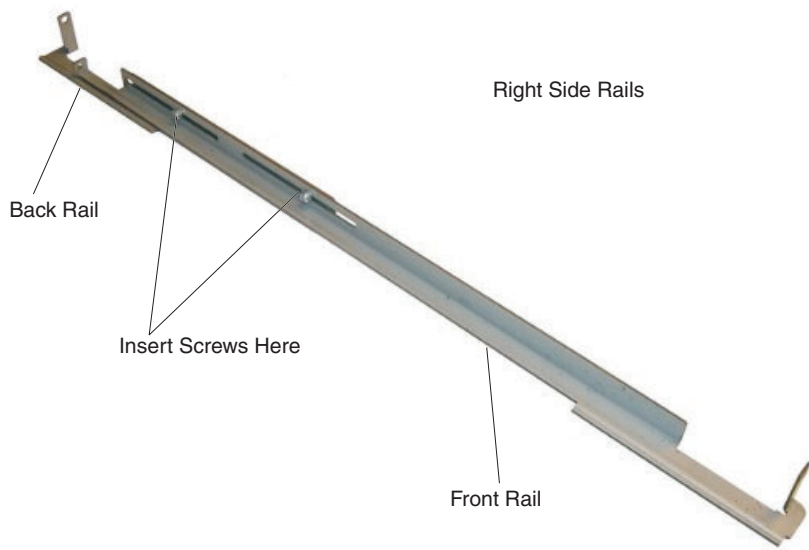

Figure 7. Assembling the right side rail
- \_\_\_ 4. Assemble the rails for the right side in the same way (see Figure 7 on page 10).